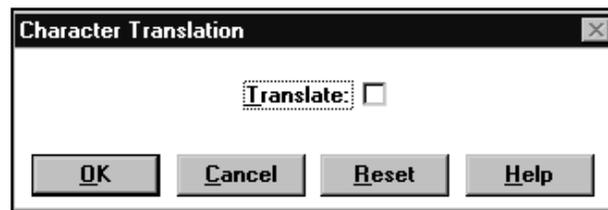

FIGURE 70. Example of Character Translation dialog box
1. In the configuration window, select Character Translation. (See Figure 70.)